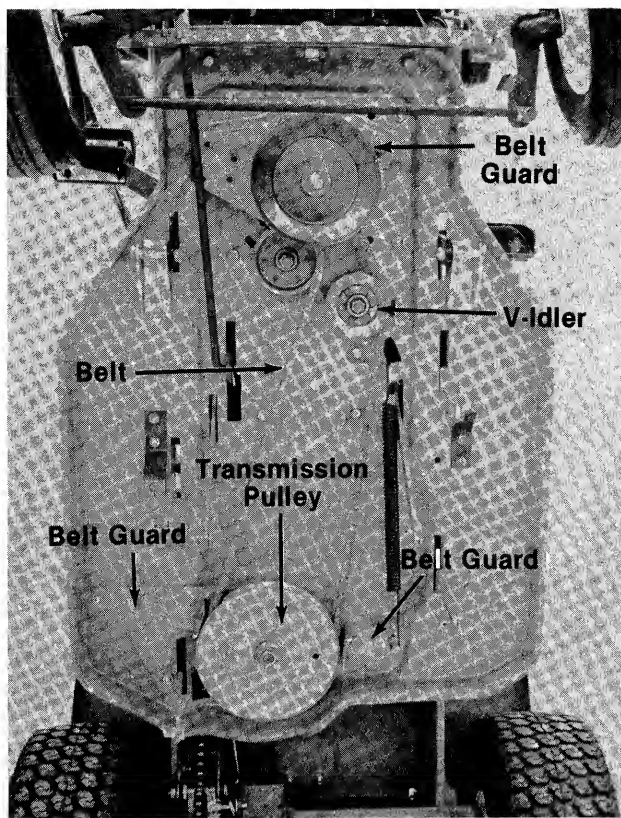

FIGURE 32.
6. Remove the six pins holding the deck to the frame. See figure 32.
TRANSMISSION BELT (See figure 32)